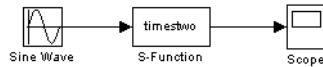

Figure 5-3: targetmodel.mdl
- 5 Create the model as illustrated in Figure 5-3, using an S-Function block from the Simulink User-Defined Functions library. Save the model as `targetmodel.mdl`.